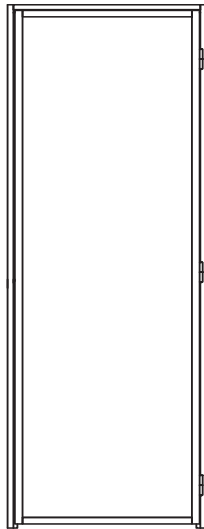

Figure 5
Install four (4) #8 x 2-1/2" jamb attachment screws or suitable alternate fastener in each side jamb. Check for proper fit of the unit (Figure 5).